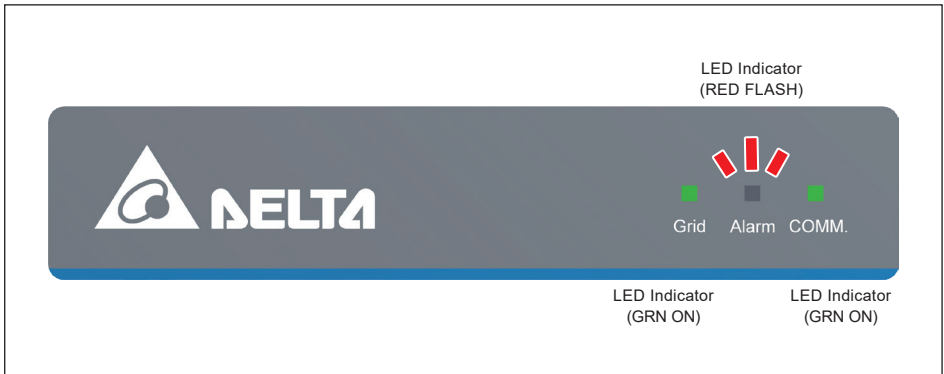

Figure 5-5: Display Indicating AC and DC SPD failure
- Determine if the SPD unit is damaged. See **Figure 5-5**.